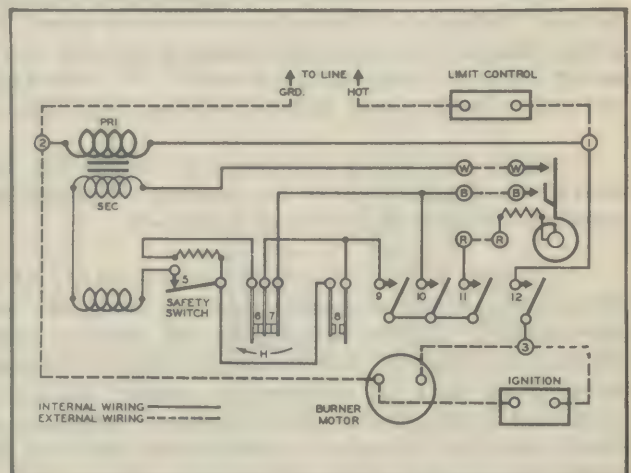

Fig. 9—Schematic circuit of RA116A.
**OPERATION** - (Refer to Fig.9) - When burner is idle, cold contacts "6" and "7" (Fig.9) are closed, hot contact "8" is open, safety switch contact "5" is closed and the relay is "out".